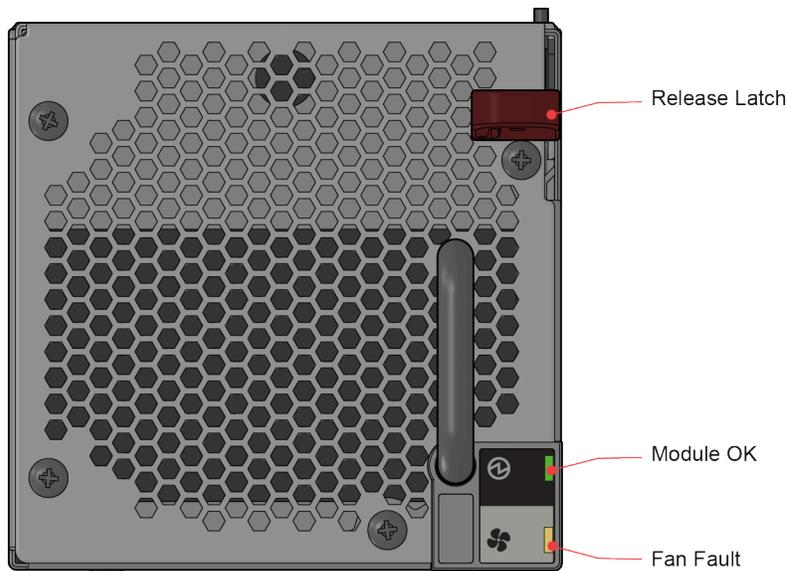

Figure 95. Cooling Module LEDs
1. Identify the cooling module to be removed. If the module has failed, the fan fault LED will be lit amber (see Figure 95 “Cooling Module LEDs” on page 89).